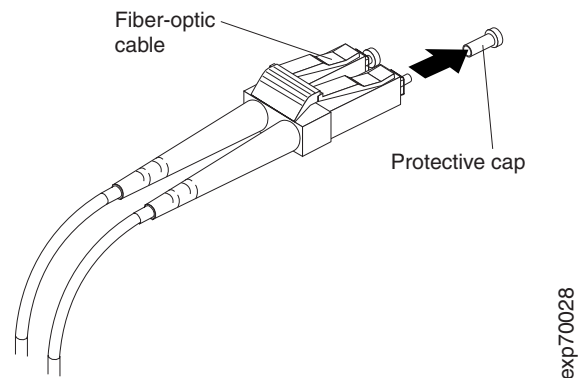

Figure 25. Removing fiber-optic cable protective caps
3. Remove the two protective caps from one end of the LC-LC cable, as shown in Figure 25. Save the protective caps for future use.